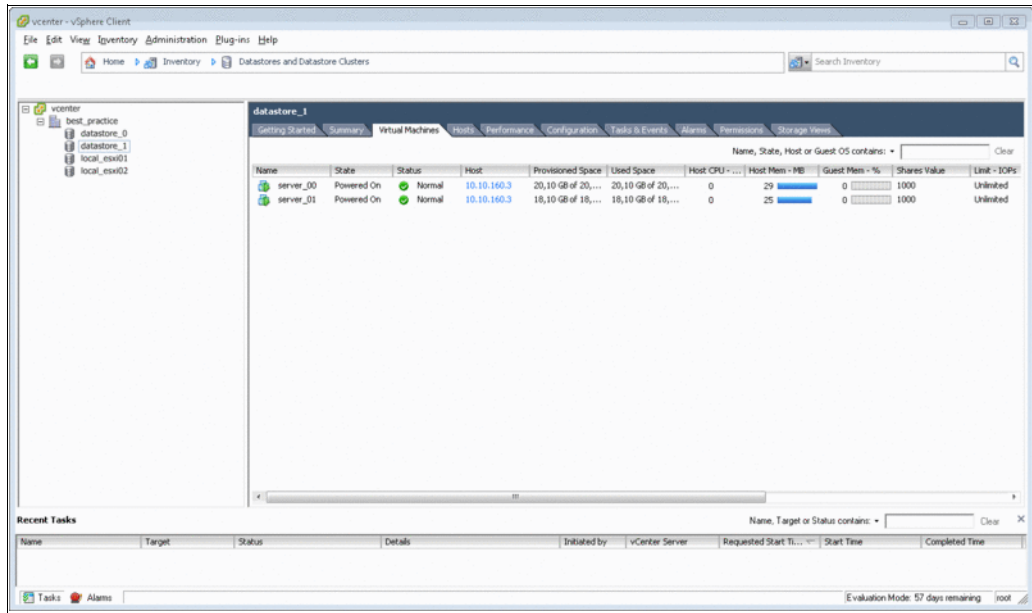

Figure 16-27 Objects present on datastore_1
1. In the vSphere Client, switch the view by clicking **Home** ∅ **Inventory** ∅ **Datastores and Datastore Clusters**. As shown in Figure 16-27 on page 587, there are two servers present on the datastore.